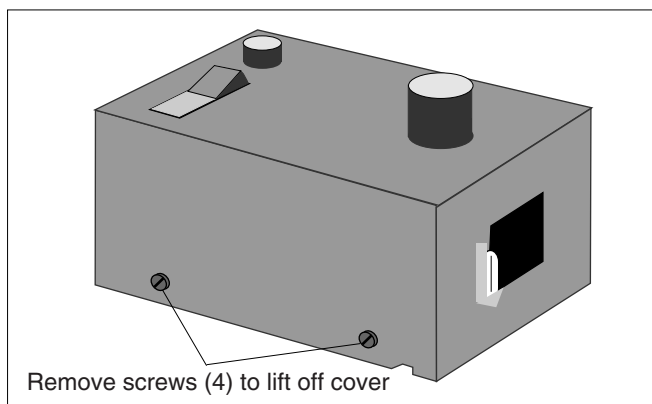

Figure A3 Light Source
- ① If at any time the Light Source fails to come on, remove the top cover of the Light Source by removing the four screws as shown in Figure A3, and replace the light bulb. If problems persist, contact PASCO scientific.